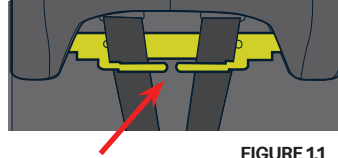

FIGURE 1.1
- Pass both shoulder harness straps through the guide slots on the back of the seat (see **Figure 1.1**).